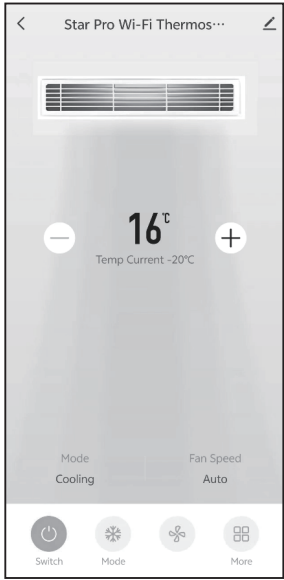

Figure7 Main interface
- 1) Click the “ Switch ” button in the lower left corner to turn on the air conditioner, as shown in Figure 7.
- 2) Click “ - ” or “ + ” in the middle of the screen to adjust the temperature of the air conditioner, as shown in Figure 7.
Click "More" in the lower right corner of the main interface, as shown in Figure 7: